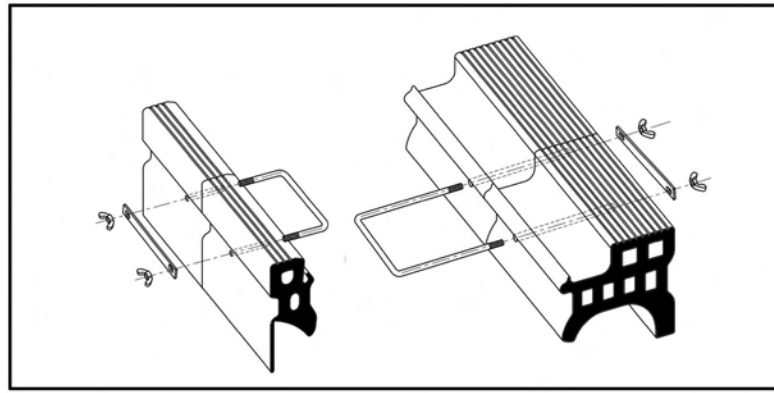

Figure 1
- 1 Layout the Railseal end to end and fasten with Sure-Lock end fasteners (Fig. 1)